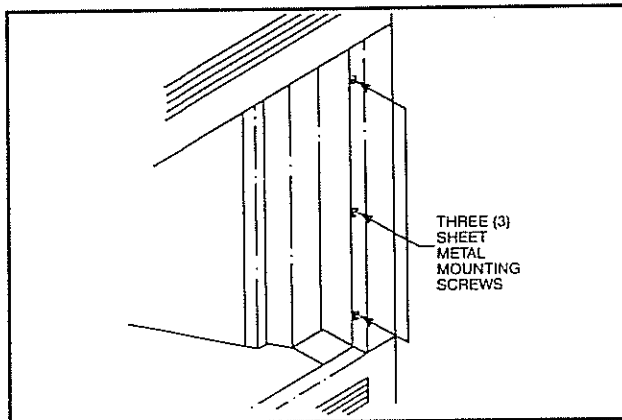
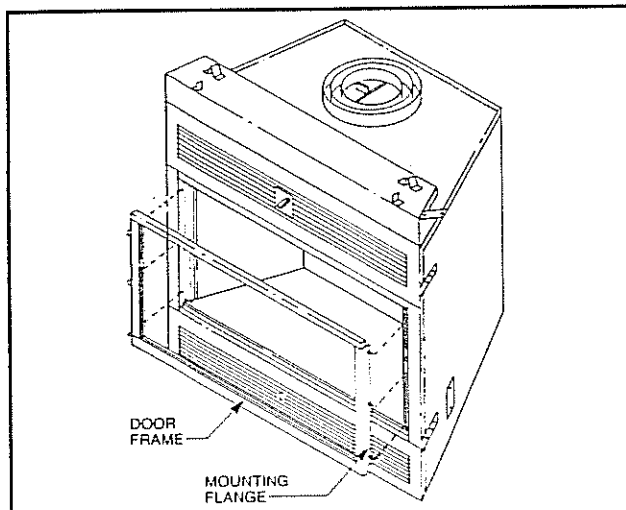

Fig. 31. Remove mounting screws.
Fig. 32. Mounting door frame.
Locate and remove the three (3) sheet metal screws from each side of the firebox opening that attaches the surround to the firebox casing. (See Fig. 31.) Slide door frame into firebox opening until top and bottom edges are tight against fireplace surround. Align holes in side mounting flanges with mounting holes in firebox casing sides. Secure each side by reinstalling the three (3) sheet metal screws. (See Fig. 32.)